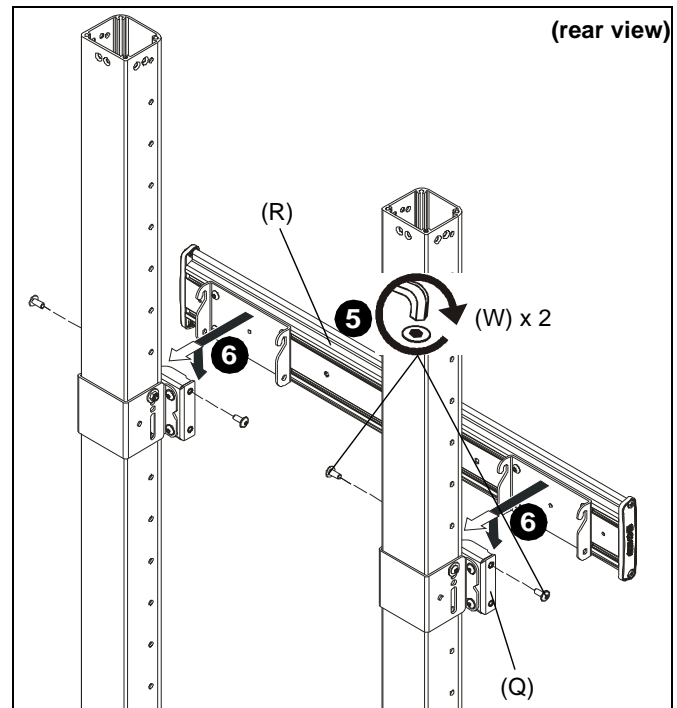

Figure 7
5. Install two 5/16-18 x 3/4" button head flange screws (W) into the top holes on each quick connect base (Q). (See Figure 7)
6. Hang single display rail (R) onto screws installed in previous step to quick connect bases (Q). (See Figure 7)